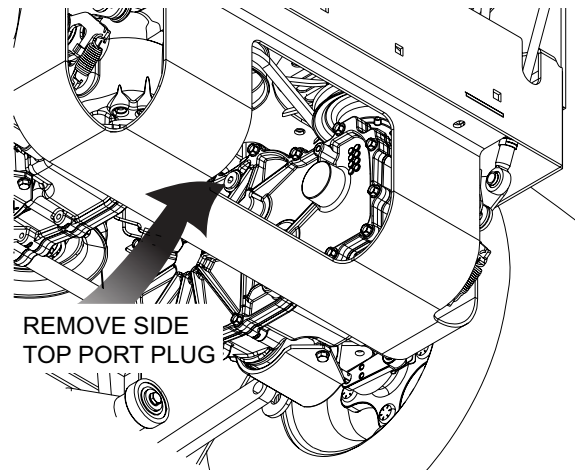

Figure 7-2. Side Top Port Plug Location
7. Remove the side top port plug from both axles before filling with oil. See Figure 7-2.
16. After the purge process is complete, remove the side top port plug from both transaxles to check the oil level. See Figure 7-2. If necessary, fill oil until the oil just appears at the bottom of each axle top port